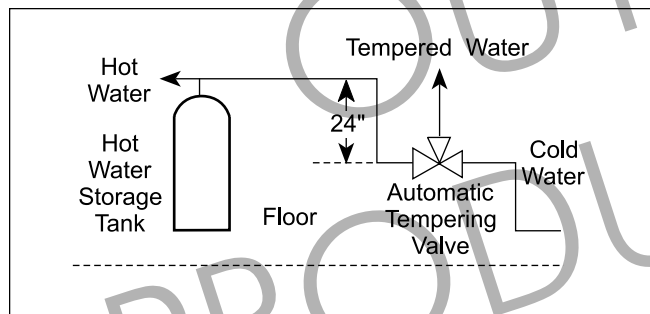

Figure 10. Tempering Valve Installation.
4. When installing a tempering valve, place at bottom of antithermosyphon loop at least 24" high to prevent excessive hot water from entering mixed water supply. Bring the cold water supply up from the floor to the valve (see Figure 10).